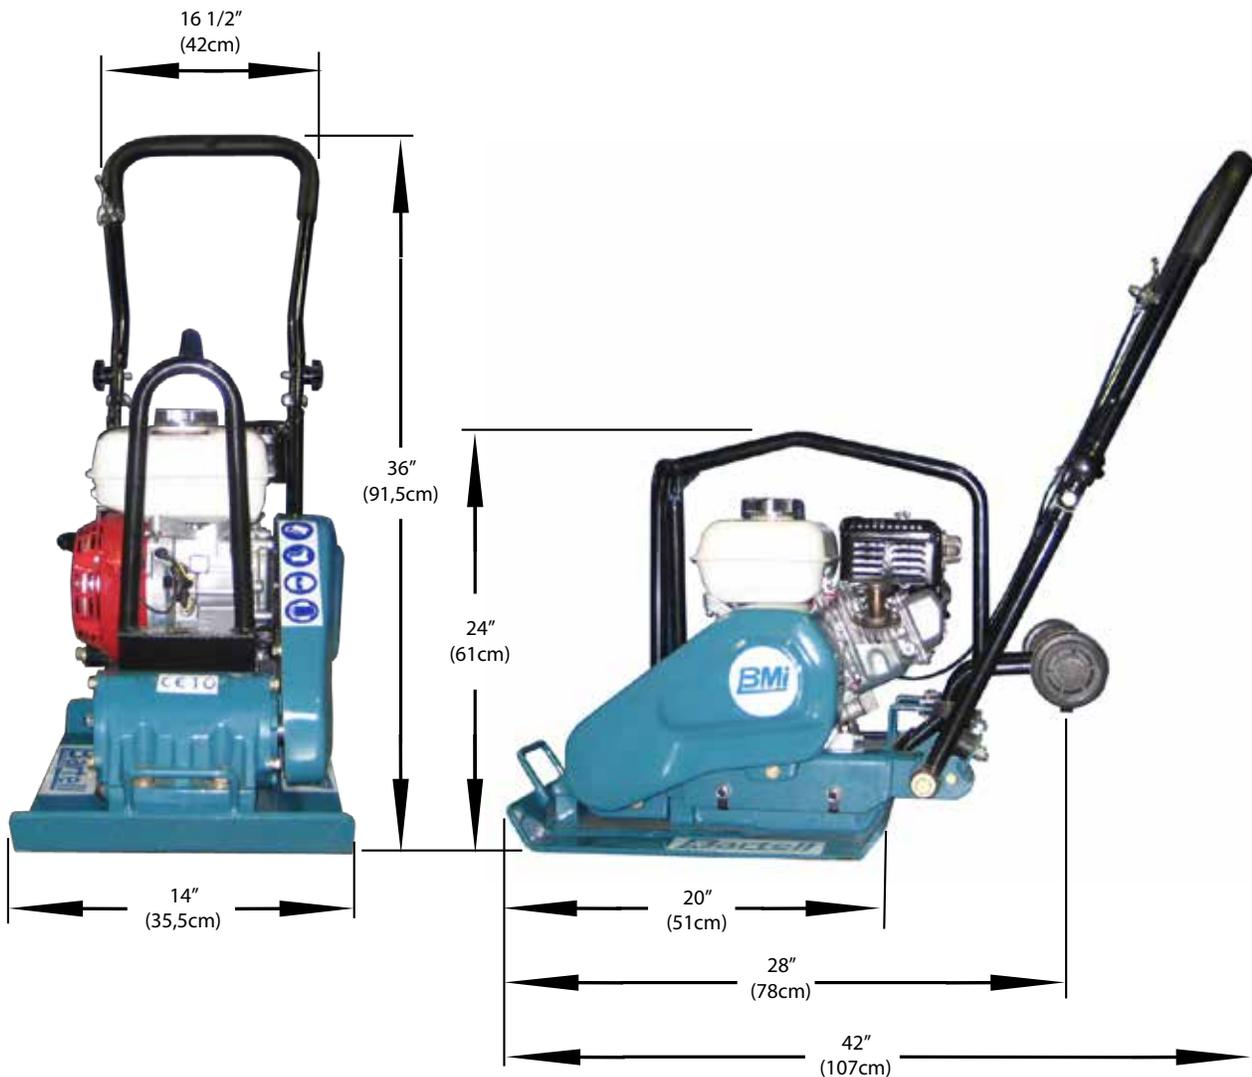

Figure 1: B100 Dimensions (Honda GX120 Engine Shown)
5. Remove the oil plug in the excitor base and check the oil level. Make sure the compactor is level when checking. The oil level should be up to the oil plug. Every month or every 200 hours of operation, replace the oil. (Fig.1) **IMPORTANT:** When changing the oil, the old oil can be drained by tipping the unit. The oil will drain easily while it is hot.